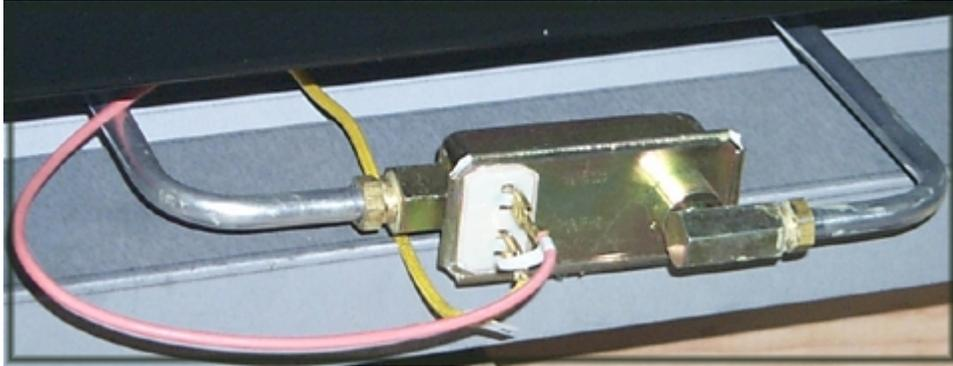

Figure 22-1
Figure 22-1 shows the gas valve that supplies gas to the infrared broiler located behind the toe-kick at the bottom of the range.
Figure 22-1 shows the convection motor part number (A) mounted on the outside, back of the oven